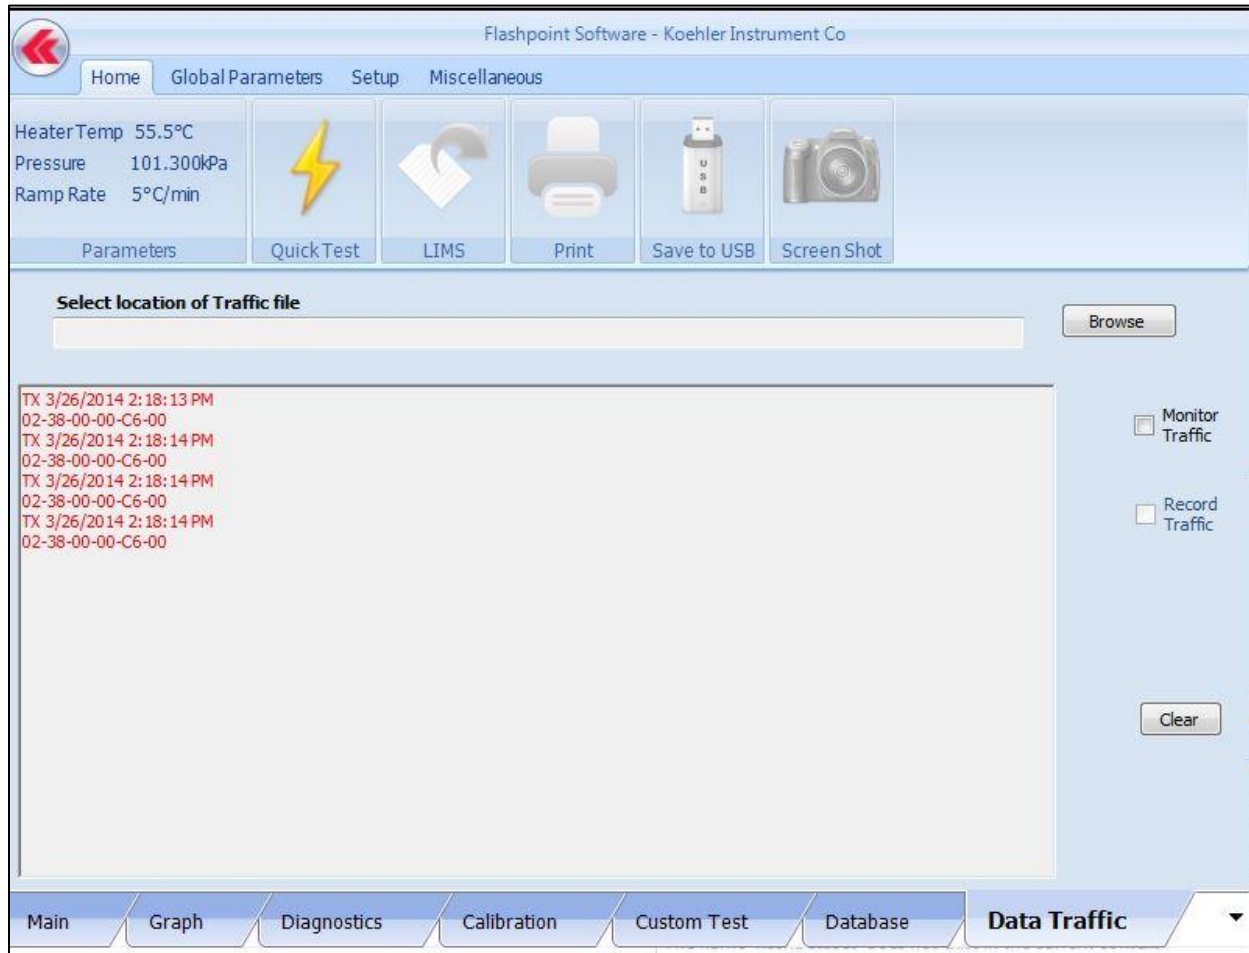

Figure 29: Data Traffic Screen
**13. Data Traffic** - Clicking on the Data Traffic Tab will display the analyzers platform for showing the data traffic or communication data between the systems PC and Microprocessor as shown in **Figure 29** below. When the user first enters this menu, the display screen will be blank. Clicking on the **Monitor Traffic** box will begin displaying the data communication. At this time, a screenshot can be taken of the current data being displayed. The user can also insert a USB drive at this time and click the